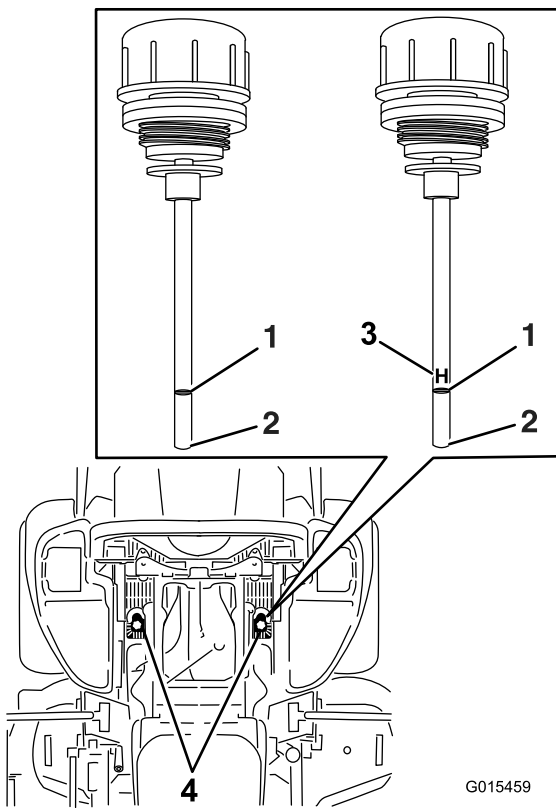

Figure 85
6. Clean the area around the dipsticks of hydraulic-system reservoirs (Figure 85).
7. Remove one dipstick from the hydraulic reservoir (Figure 85).
9. Remove the dipstick and look at the end (Figure 85).